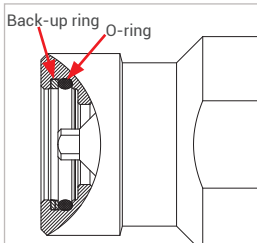

Figure 10
- ▶ Before inserting the receptacle insert (Pos. 7), check both sealing elements (o-ring and back-up ring, *Figure 10*) for correct installation direction, proper position and any damages. If the seals are damaged or in a similar condition, replace the seals. Please refer to *Chapter 8.4.1 Replacing the sealing elements in the receptacle insert (Pos. 7) on page 23*.